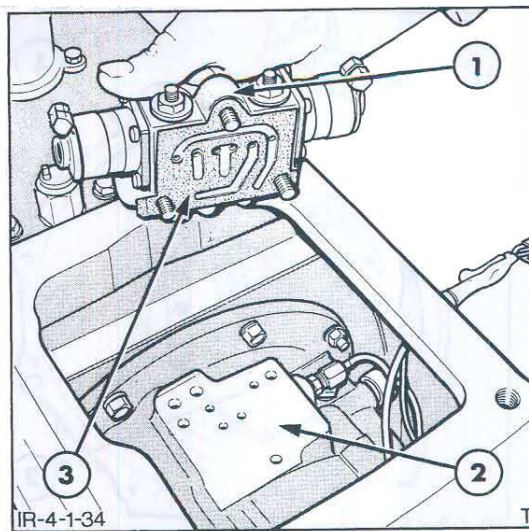

Figure 40
4. Remove the solenoid control valve securing bolts and remove the solenoid control valve from the distributor housing, Figure 40.